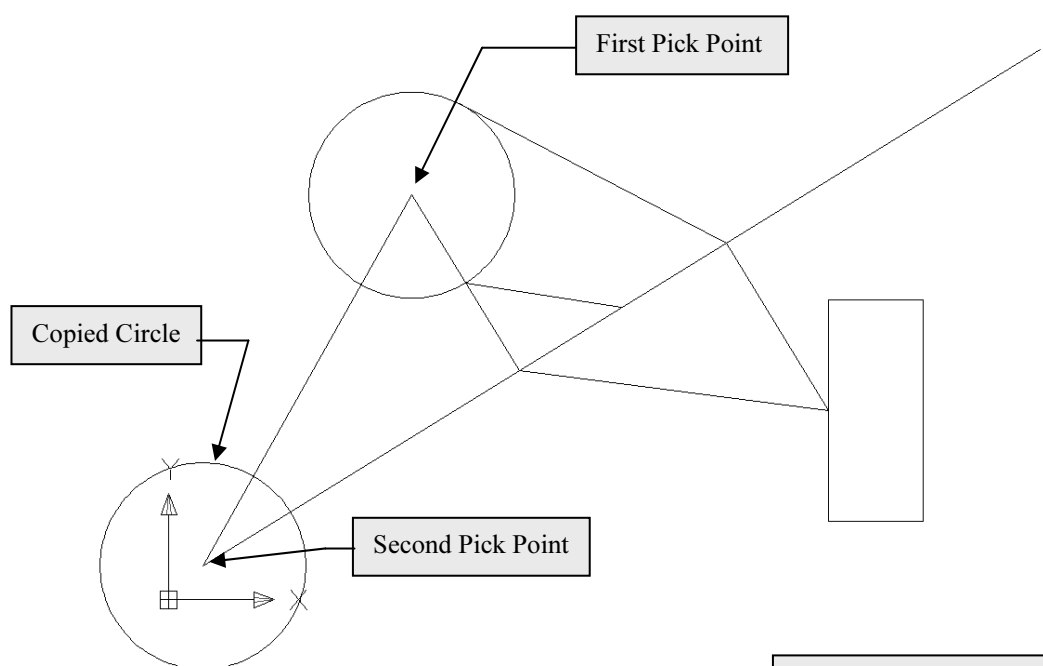

Figure 2-3.4
8. Pick the **Center** of the **Circle** as the base point. (Figure 2-3.4)
When you need to Move or Copy something to a very specific location, you can type in the distance and angle from the original entity (i.e. use the first point as displacement). This is very useful when you do not have any entities drawn that represent this distance and angle (e.g., as per the steps when you copied the circle, Figure 2-3.4).